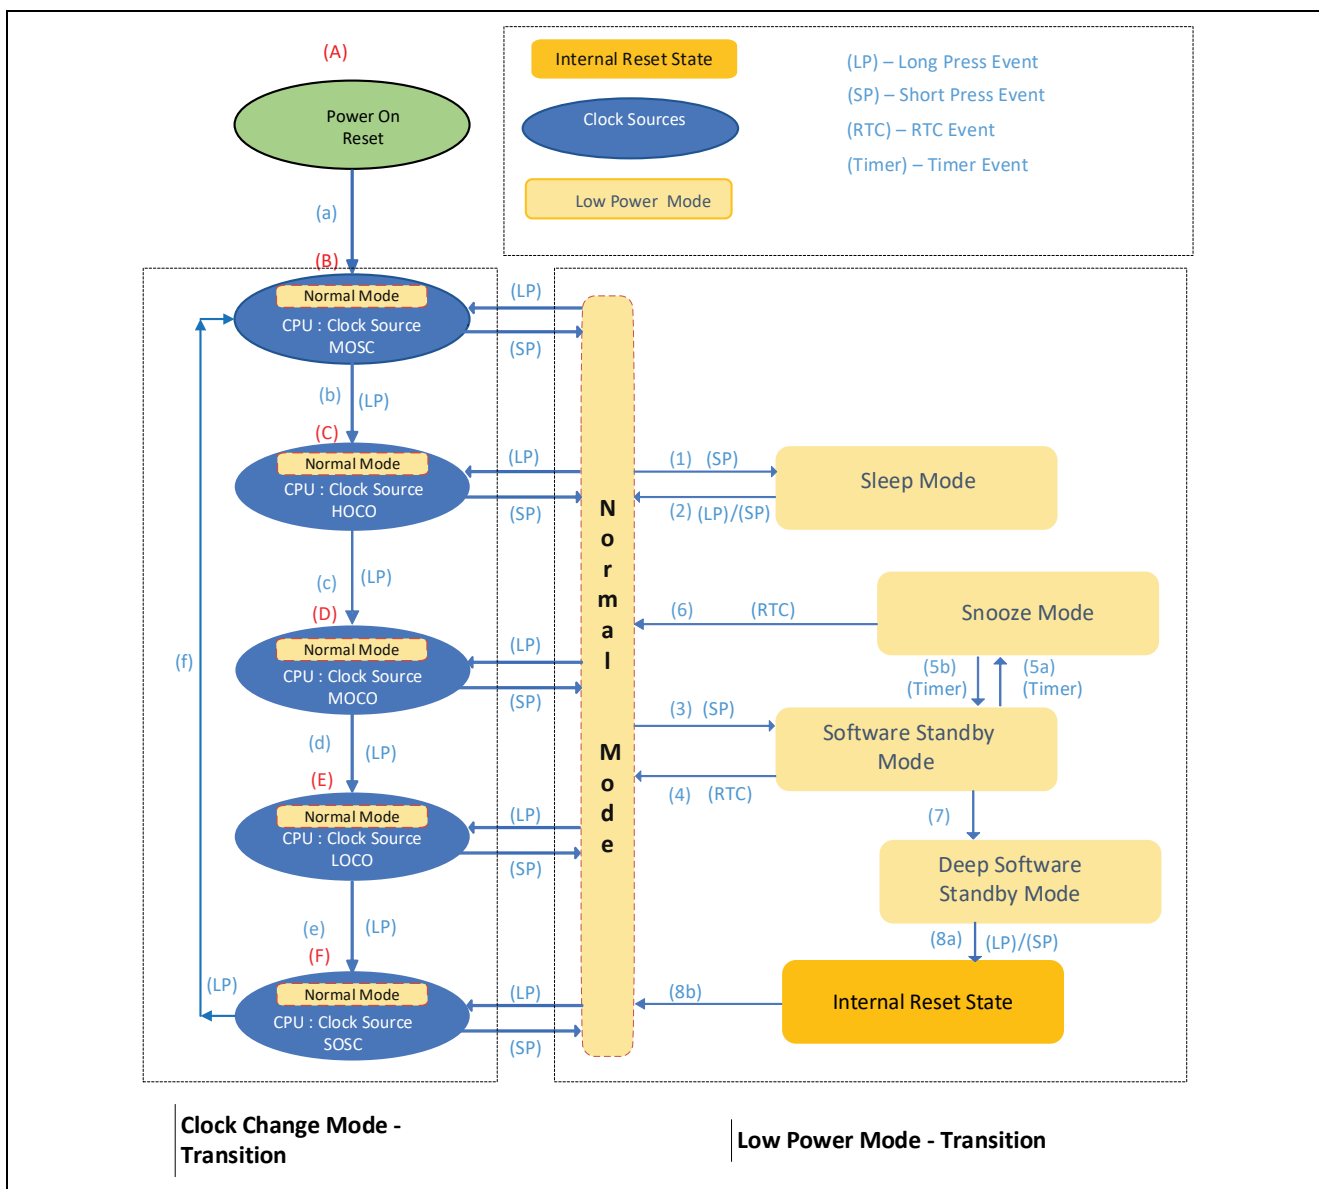

Figure 19. Clock Changing and LPM Transition
The following Figure 19 shows the different clock sources and the associated LPM used in the application and different transition states. The application implemented using the event driven mechanism. In this event driven system, events can be user driven or system generated, which are used as the input to the finite state machine. Two separate state transition tables are used here in the application.
In Figure 19, the blue colored oval shaped blocks (B) through (F) represent the different clock states used in the application, and (b) through (f) labeled arrows are different transition path it takes when changing the clock.
Note: The dotted block represents the Clock Change Mode transition on the left and LPM Transition on the right as shown in Figure 19.